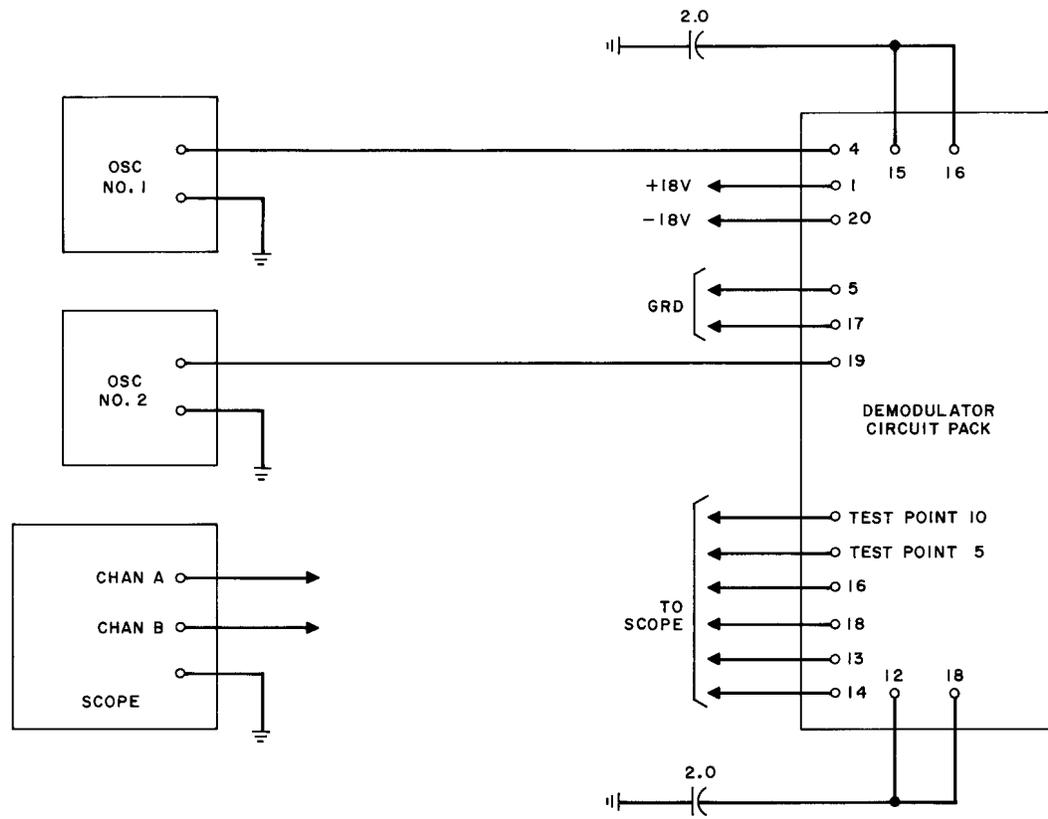
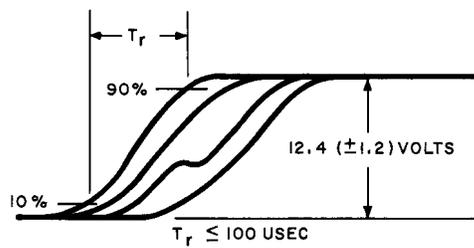

Fig. 75A — Demodulator Circuit Pack Test Circuit
Fig. 76A — Demodulator Circuit Pack Test
12.01A *Circuit Description:* The AR96 circuit pack contains two input amplifiers, an intermediate amplifier, an output amplifier and two cross-coupled diode networks which provide signal phase comparison for both direct and delayed line signals. The following descriptions are illustrated by a circuit sketch that follows the test procedures. Required external connections are illustrated in Fig. 75A.
- (1) Connect the circuit pack to the suggested test circuit shown in Fig. 75A.
- (2) With the amplitude control of oscillator No. 2 set to 0, temporarily connect ground to input terminal 19.
- (3) Set the controls of oscillator No. 1 to produce a 0.2 (± 0.005) volt rms signal at 1800 Hz between input terminal 4 and ground. The waveform between test point 5 and ground shall be a sine wave of 0.68 (± 0.15) Vac peak-to-peak.
- (4) Remove the ground connection from input terminal 19. With the amplitude control of oscillator No. 1 set to 0, temporarily connect ground to terminal 4.
- (5) Set the controls of oscillator No. 2 to produce a 0.5 (± 0.005) volt rms signal at 1800 Hz between input terminal 19 and ground. The waveform between test point 10 and ground shall be a sine wave of 0.68 (± 0.15) Vac peak-to-peak. Remove the ground connection from terminal 4.
- (6) Set the controls of oscillator No. 1 to produce a 0.32 (± 0.005) Vac rms signal at 1800 Hz between input terminal 4 and ground.
- (7) Set the controls of oscillator No. 2 to produce a 0.80 (± 0.005) Vac rms signal at 1800 Hz between input terminal 19 and ground.
- (8) Connect the scope, using the differential mode of operation, to terminals 16 and 18. Satisfactory synchronization may be obtained by connecting EXT SYNC to VERTICAL SIGNAL OUT on the scope. The output waveform shall be a sine wave. Track the frequency of oscillator No. 2 in the vicinity of 1800 Hz until the frequency of the output sine wave is approximately 2 Hz. The output sine wave will have an amplitude of 12.5 (± 2.5) Vac peak-to-peak.
- (9) With the controls of the oscillators set as in (8), connect the scope, using the differential mode, to terminals 13 and 14. The output waveform shall be a square wave of approximately 2 Hz with amplitude 12.4 (± 1.2) Vac peak-to-peak.
- (10) Increase the frequency of oscillator No. 2 to approximately 2700 Hz. With the EXT SYNC TRIGGER selector set to the (+) positive position, expand the TIME/CM selector until an overlay of positive transitions is displayed on the scope as shown in Fig. 76A. The rise time of the first transition shall be as specified in Fig. 76A.
- (11) Momentarily turn off oscillator No. 1. The differential voltage between terminals 13 and 14 shall be less than 150 mV peak-to-peak. Turn on oscillator No. 1. Momentarily turn off oscillator No. 2. The differential voltage between terminals 13 and 14 shall be less than 150 mV peak-to-peak.